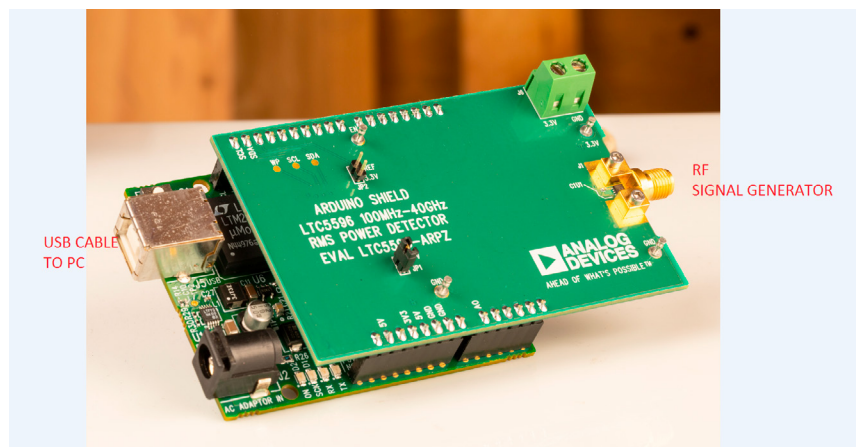

Figure 1. Test Setup for RF Performance Measurements
1. Remove the DC2870A from its protective packaging in an ESD-safe working area, connect USB cable to PC(see Figure 1).